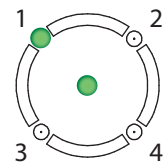

Fig. 7
the middle of the circle on the transceiver front illuminates to indicate it is turned on. One of the outer LEDs (numbered 1 to 4) around the circle also turns on (depending on which port the Transceiver is connected to on the Base Station, see Fig. 7). This outer LED will initially flash as the Transceiver scans for available channels before turning solid green once a channel is found (on the Base Station HOME screen, the "Transceivers" indicator is yellow while scanning before turning green).
** LEDs (1 - 4) on the RT7000 Front (Fig. 7) correspond to the Remote XCVR port number on the Base Station (Table 1 label).